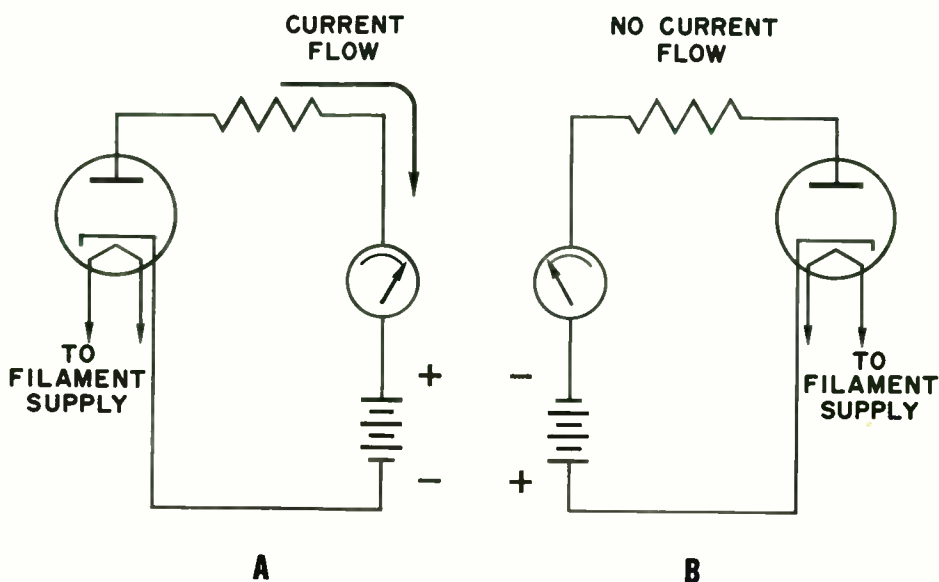
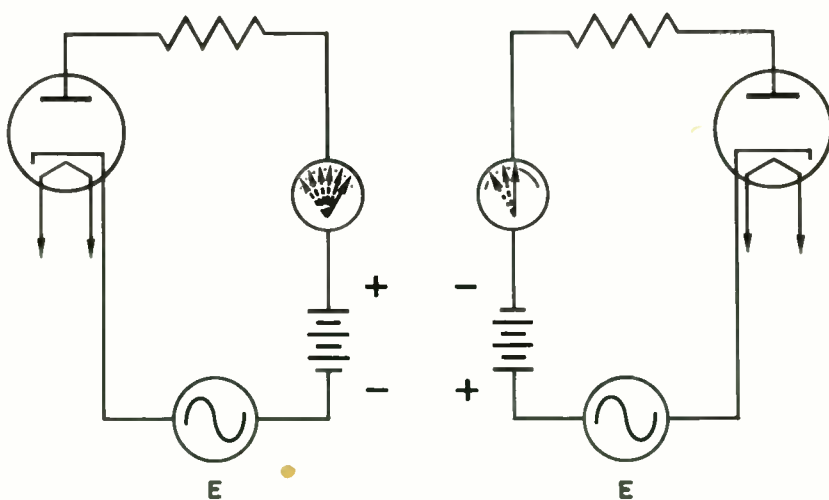

Figure 17 — Current flows in a diode only when the plate is positive.
Figure 19 — An alternating current in series with a battery produces current flow in a diode only when the plate is positive.
**Application** Since current can flow in only one direction through a diode, one of its applications in electronics is its use as a rectifier. An alternating current potential applied in series with the circuit of Figure 17 causes a current to flow through the resistance load only during alternate half-cycles (Fig. 19). The flow takes place only when the plate is positive with respect to the emitter. This unidirectional characteristic of the diode is also used in principle when the tube is used as a detector.